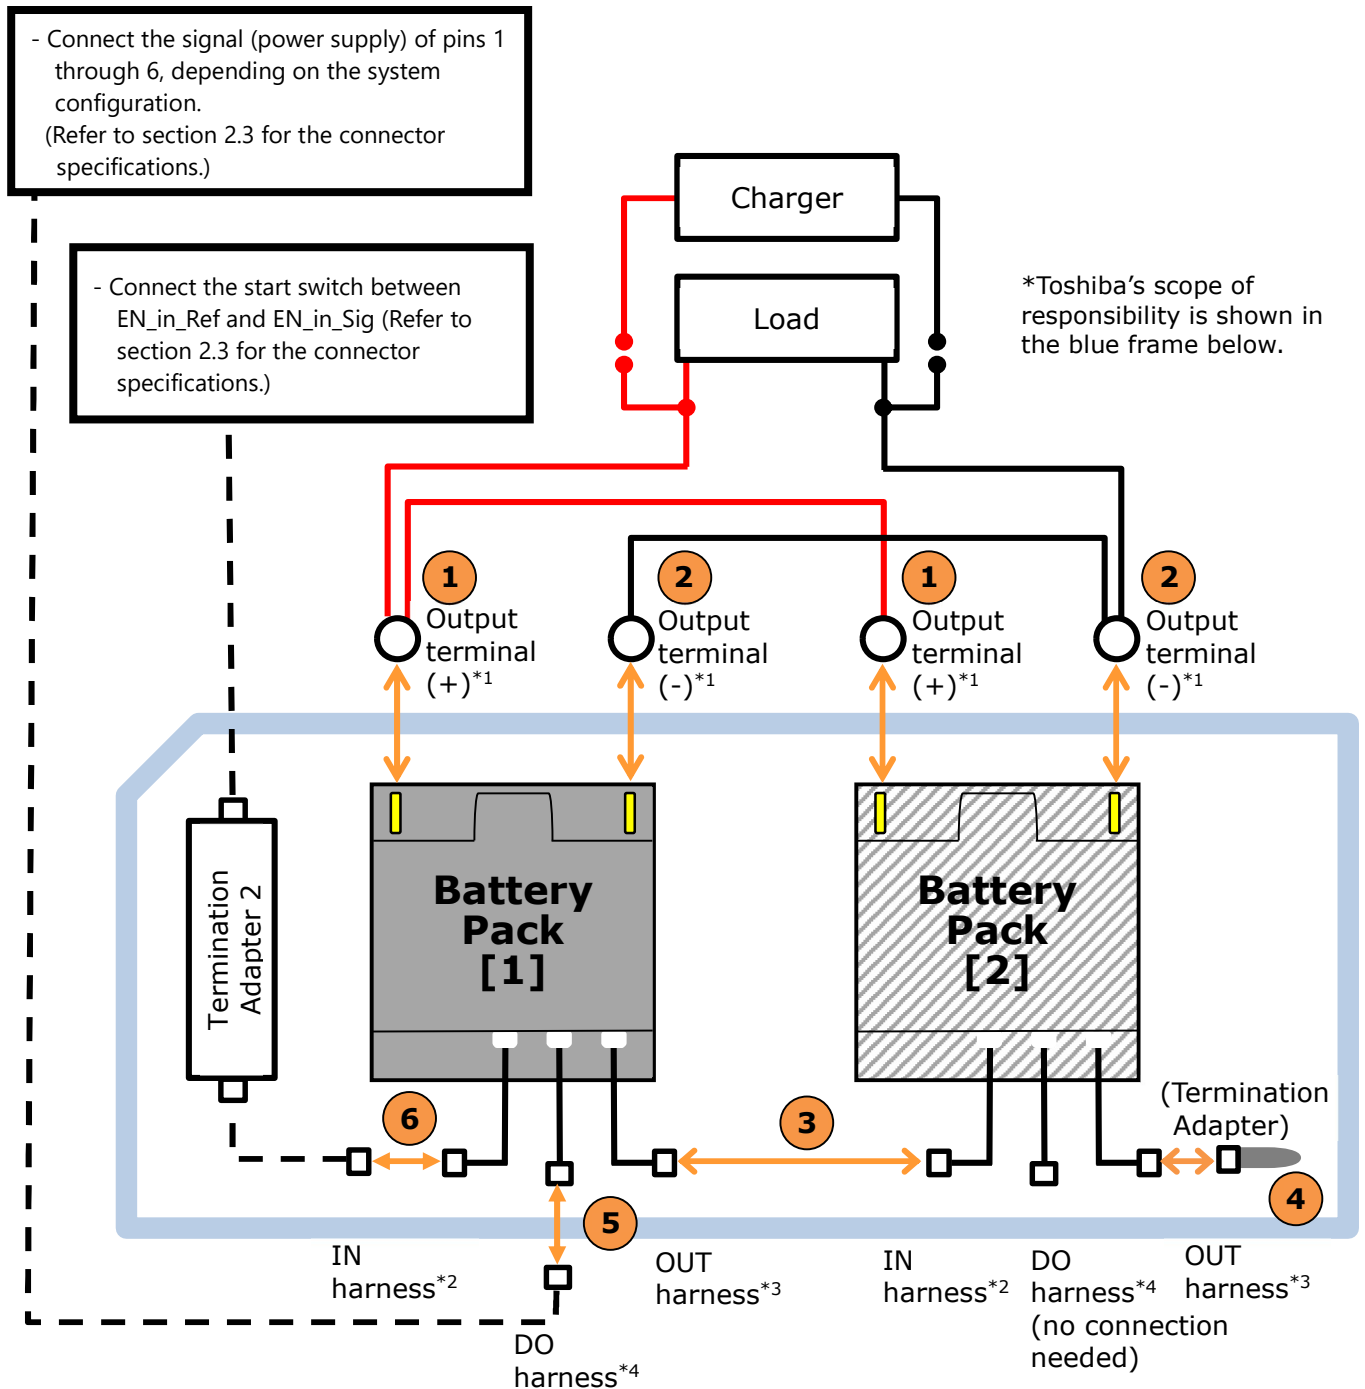

Figure 6-7 Connection Configuration with Only DO Output
Please connect each device from ① to ⑥ in order as shown in Figure 6-7.